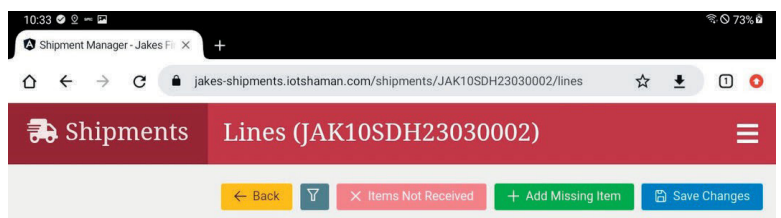

Figure 15
- 7. Click the YELLOW BACK BUTTON (Figure 15).